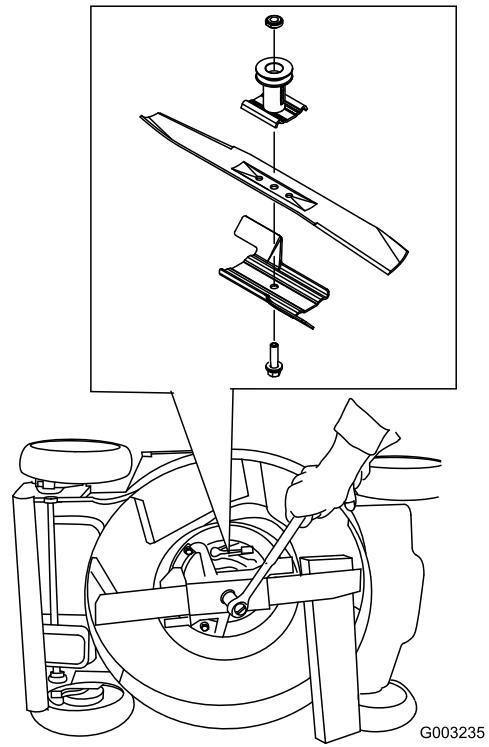

Figure 42
3. Use a block a wood to hold the blade steady (Figure 42).